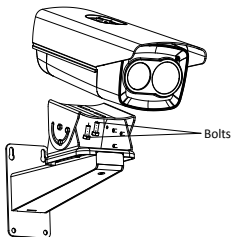

Figure 2-10 Fix the Camera to the Bracket
2. Fix the bullet camera to the mounting bracket with the supplied screws, as shown in Figure 2-10.